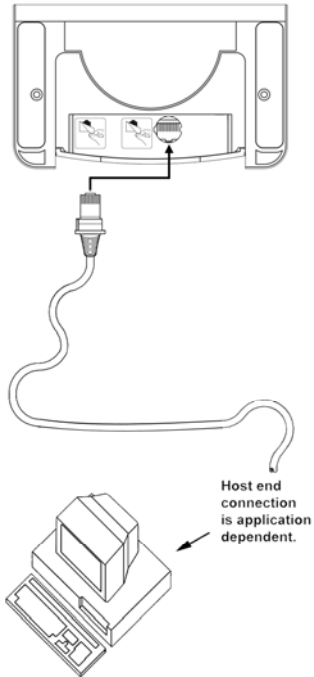

Figure 9. RS485 Interface
2. Connect the keyed cable to the 10-pin Multi-Interface jack. It is the only circular keyed jack located on the bottom of the 7820 (see figure 9).